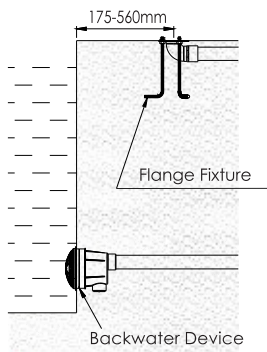

Figure 1
- 1) For a NEW BUILD Pool, pipe installation with inlet fitting and the flange fixture can be embedded in advance (Figure 1).
- 4) The flange fixture must be at least 175mm-560mm away from pool side, 350mm distance is recommended (Figure 1).